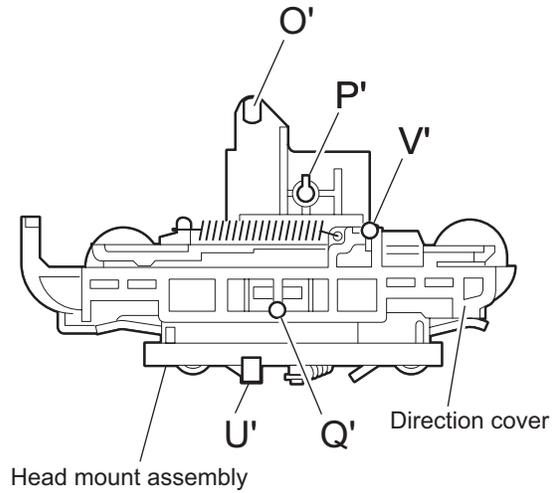

Fig.11
(See Fig.11~13)**
- (1) Reattaching the head mount assembly.
- b) Fit the bosses **O'**, **P'**, **Q'**, **U'** and **V'** on the head mount assembly to the holes **P** and **V**, the slots **O**, **U** and **Q** of the mechanism sub assembly (See Fig.11 to 13).